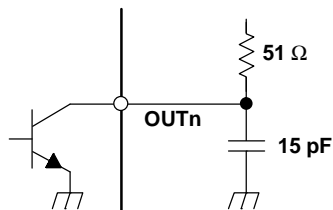
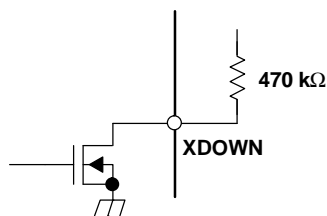

Figure 6. Test Circuit for t_{r1} , t_{f1} , t_{pd2} , t_{pd3} , t_{pd5} , t_{pd6}
Figure 7. Test Circuit for t_{pd4}
- (2) See Figure 6. Defined as from 10% to 90%
- (4) See Figure 6 and Figure 13
- (5) See Figure 6, Figure 7, and Figure 13
- (6) See Figure 6